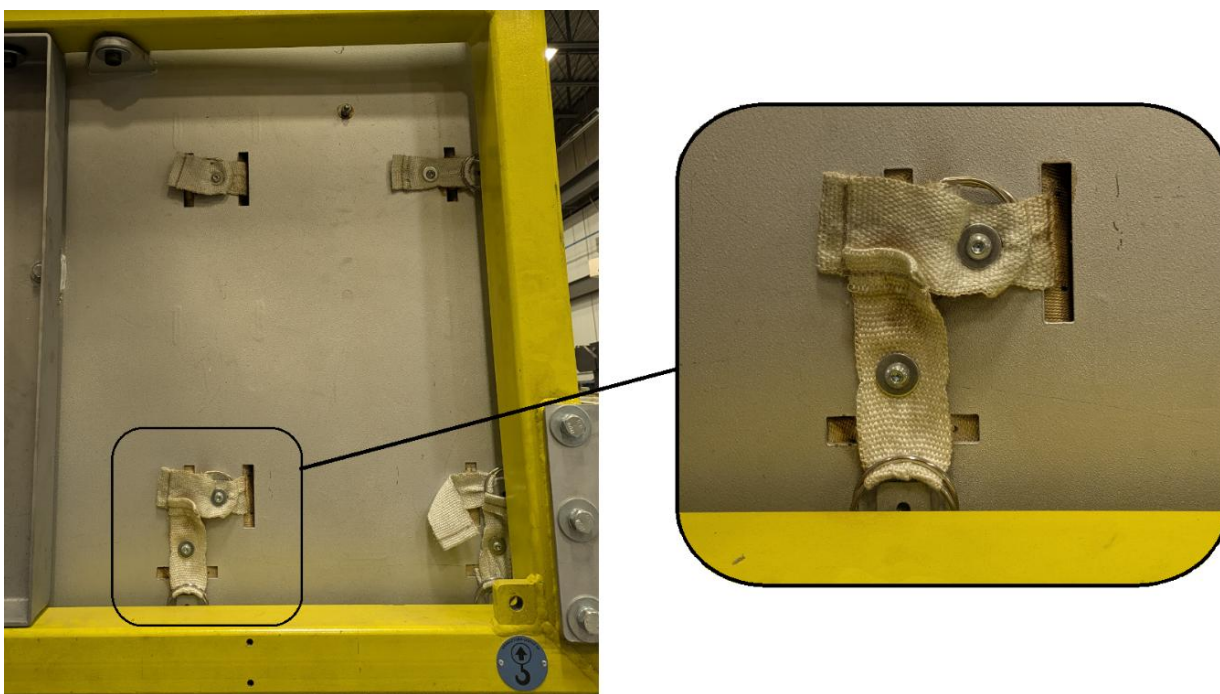

Figure 50 : Straps fixation arrangement on the lid
2. Cut the microporous panels. Prepare the square holes to allow for the insertion of the *ISOMAG* plates (see figure 50). You can cut the holes for the *ISOMAG* plates before or after the insertion of the microporous panels.